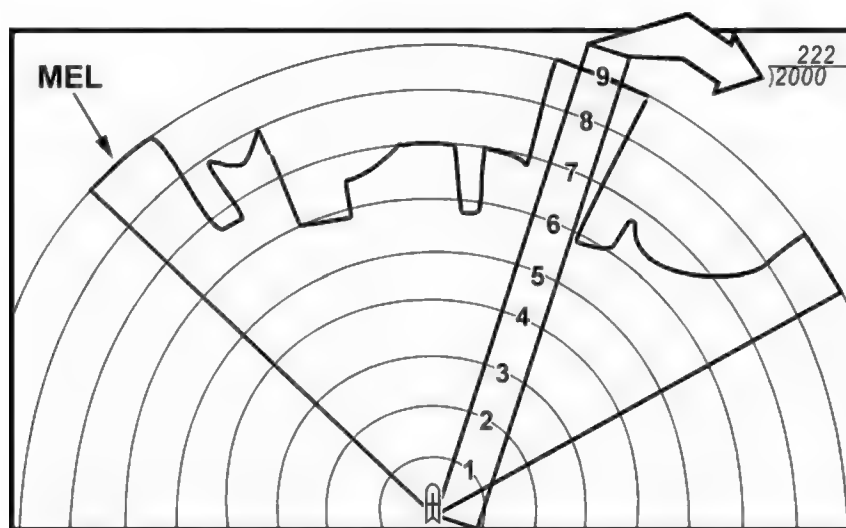

Figure B-4. Determination of distance between circles.
(1) **Example #1.** If the distance to the farthest point from the designated firing position to the MEL is 2,000 meters then: 9 intervals into 2,000 meters = 222 meters. Round 222 down to 220. Therefore, each circle equals 220 meters (Figure B-4).